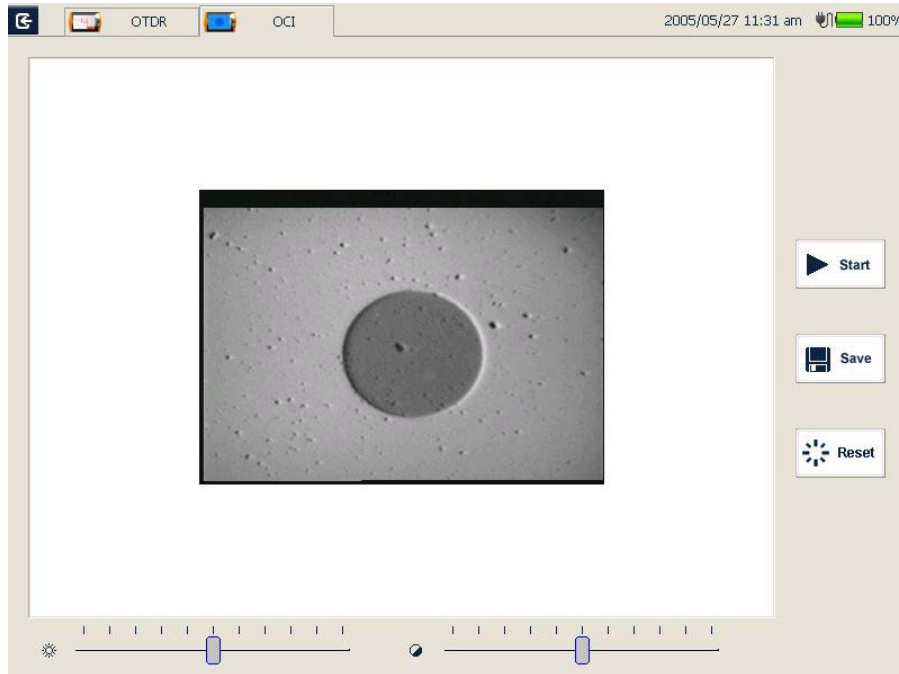

Fig. 18.2 Measurement
- 4) Click [Start] button or Press “▶/■” (Start/Stop) button on PRO-6350 front panel to start the measurement. As shown in Fig 18.2